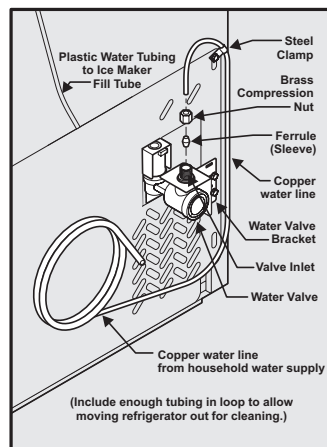

Figure 1
4. **If you use copper tubing** - Slide brass compression nut, then ferrule (sleeve) onto water supply line. Push water supply line into water valve inlet as far as it will go (¼ inch/6.4 mm). Slide ferrule (sleeve) into valve inlet and finger tighten compression nut onto valve. Tighten another half turn with a wrench; DO NOT over tighten. See Figure 1.